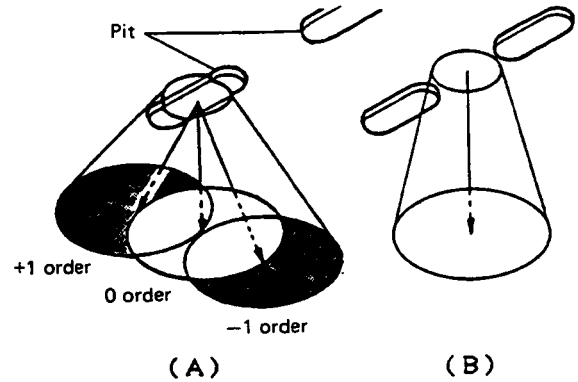

Fig. 2-2
**(2) RF and servo signals**
The beam, which has been reduced to an extremely small spot by the objective lens, now strikes the disc side on which the signal is located. Part of the beam is then reflected back to the objective lens and photo diode. A diagram showing how this beam is reflected off the disc is shown in figure 2-2. (A) shows what happens when the concentrated beam is directed at a pit. Normally, this reflected light would disrupt the output light beam. In the laser diodes used in CD players, however, noise is reduced instead, resulting in stable performance. This property is very advantageous for the half prism which allows only half of the light energy to pass.